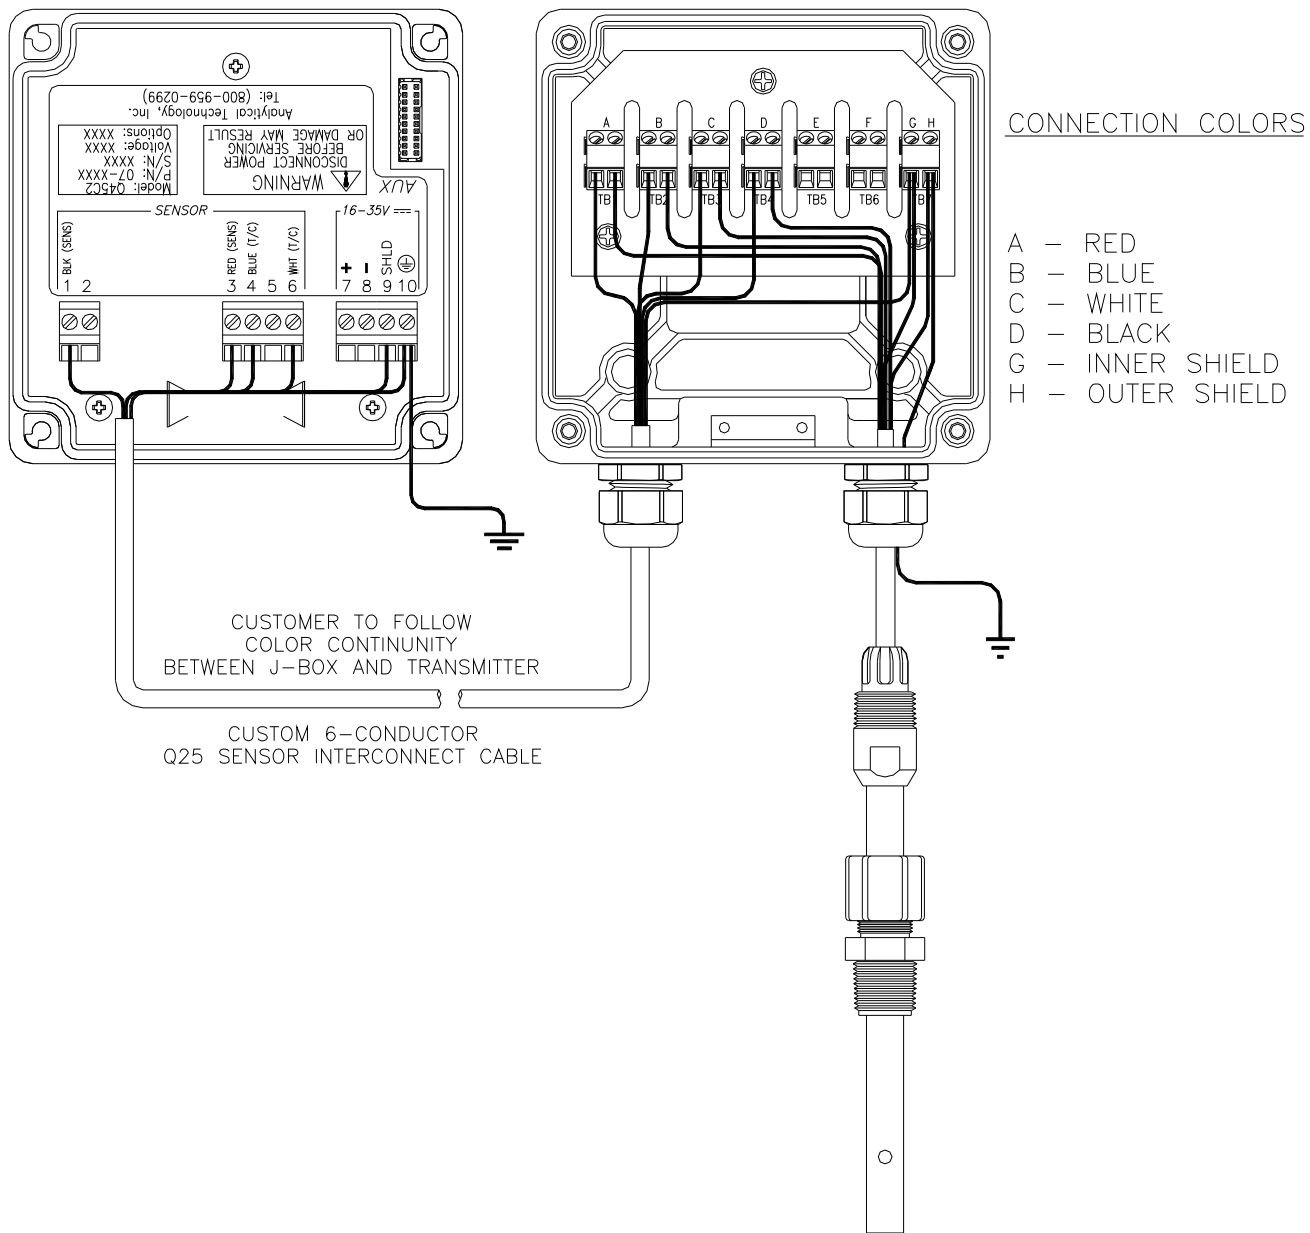

Figure 14 - Junction Box Interconnect Wiring
Refer to Cable Description and **Figure 14**, Wiring Diagram for illustrative details on electrical installation.
Sensor connections are made in accordance with Figure 14. The sensor cable can be routed into the enclosure through one of cord-grips supplied with the unit. Routing sensor wiring through conduit is only recommended if a junction box is to be used. Some loose cable is needed near the installation point so that the sensor can be inserted and removed easily from the flowcell.
For installations where the sensor is to be located more than 30 feet from the monitor (max. 60 feet), a junction box must be used. The junction box is shown in Figure 14, and is supplied with a (2) Pg 9 cord grips for sensor and interconnect wiring.